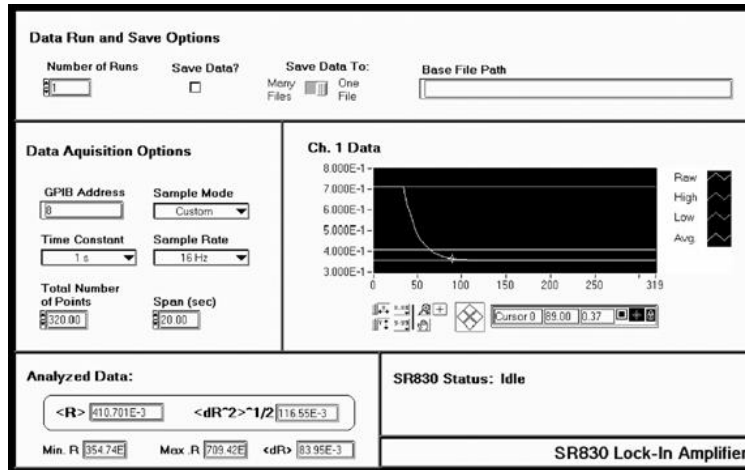

Figure 10: The output of the program
8. A second or two after the program begins acquiring data, change the amplitude of the input sine wave to  $0.02 V_{pp}$ . To do this quickly, input the new value for the amplitude on the function generator before you start the run, but wait to press the units button (i.e. [ Hz/ $V_{pp}$  ] ) until you're ready (the function generator won't make any changes until everything's specified). The following **Figure 10** shows what the output of the program might look like.